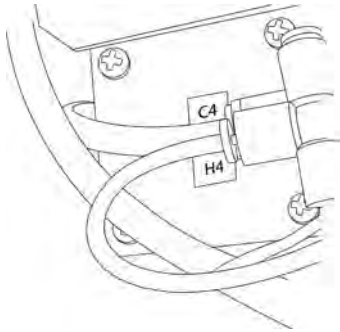

Figure 4.2 C4 and H4 compression fittings
14. Disconnect the yellow bleed tubing from C4 by releasing the compression fitting, as in Figure 4.2.